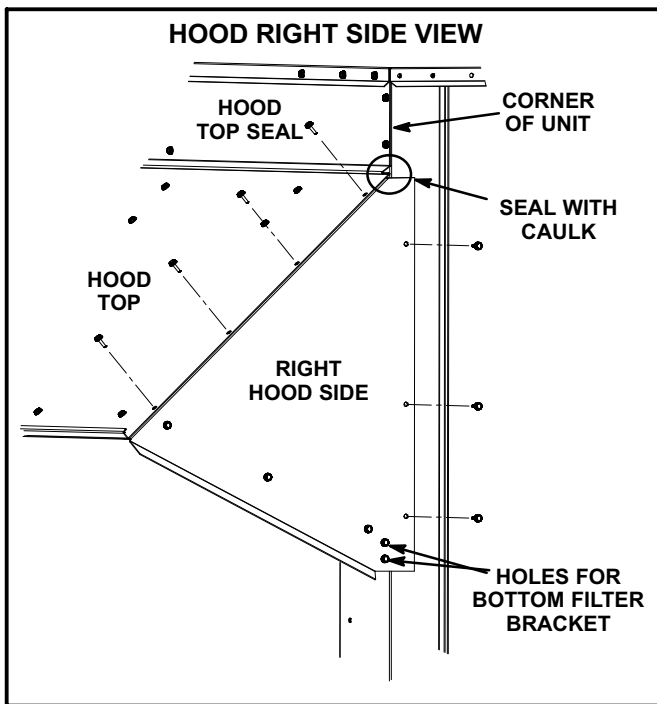

FIGURE 12
- 11- Secure the right hood side to the hood top. See figure 12. Do NOT secure the right hood side to unit.
- 14- Secure the right hood side to the unit as shown in figure 12.